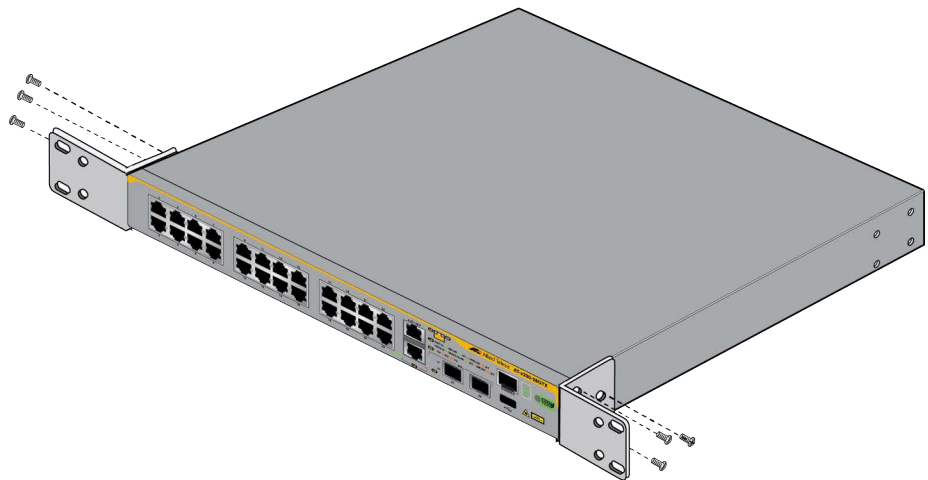

Figure 44. Attaching the Equipment Rack Brackets to the x330-28GTX Switch
2. Attach the equipment rack brackets to the sides of the switch with the six 4x8mm screws included with the device. Refer to Figure 44.